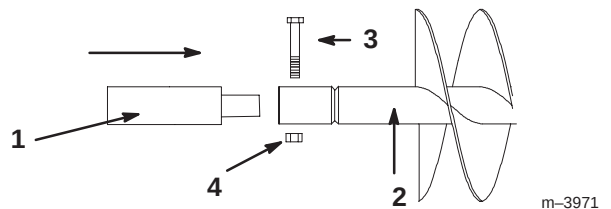

Figure 3
4. If using an extension with the auger, insert the end of the extension into the end of the auger and secure the auger to the drive head with the 7/8"–9 x 4–1/2" bolt and 7/8"–11 nut (Fig. 3).